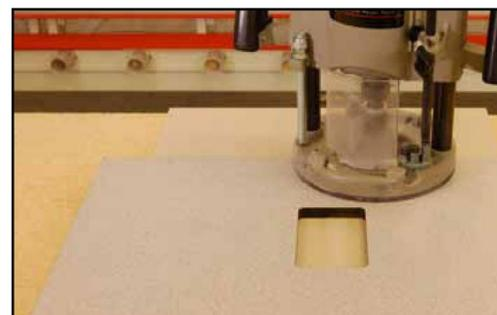

Figure 19B
- On full height backsplash, apply all EOS^{CU} Hard Surface fabrication guidelines. (FIG. 19B)